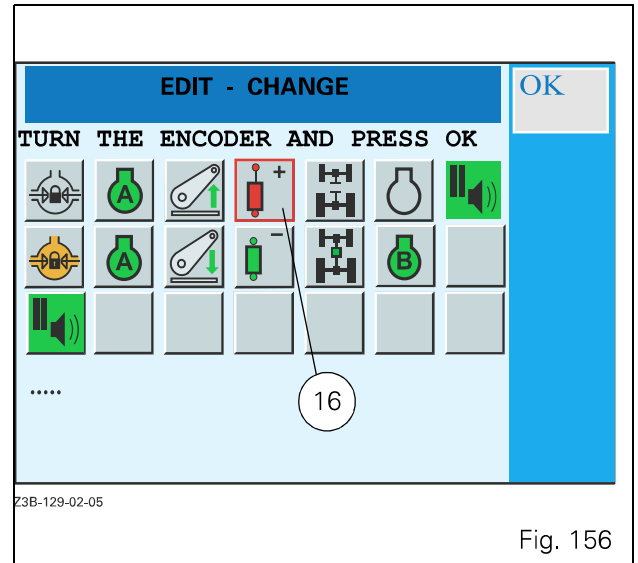

Fig. 156
- Select an action by rotating the encoder. The question mark is replaced by an action. (e.g.: 16 Fig. 156)